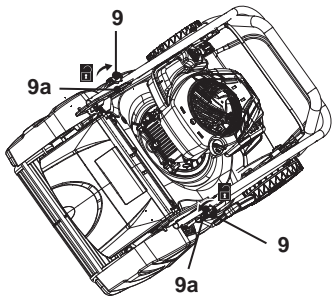

Fig. 1
2. Loosen the two locking knobs (9) 90° anti-clockwise from the handle brackets (10) and the lower handle bar (8) (Fig. 1).